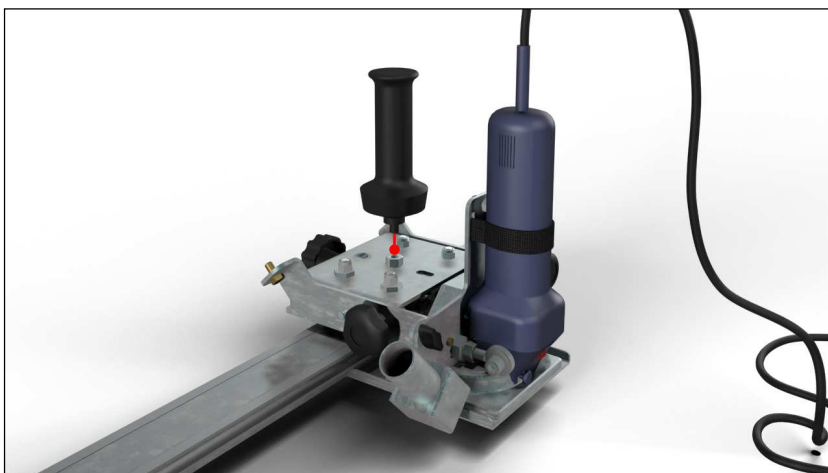

Fig. 6.4.10 Knob to lock the screw for the millimetric adjustment.
- 12- Once the millimetric adjustment is defined, lock in the position wanted using the knob (see figure 6.4.10)